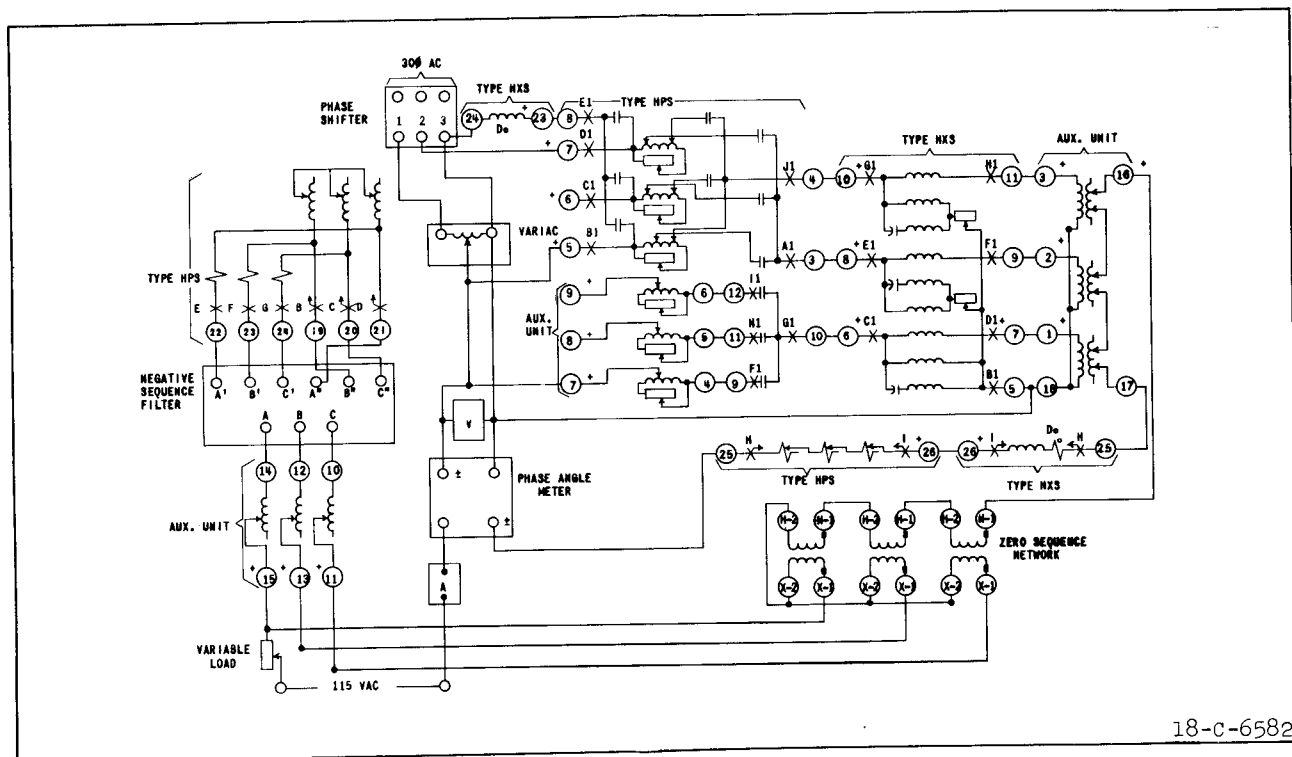

Fig. 15—Test Connections For Calibration Check Of A Reactance Element.
1. Make set-up similar to Fig. 15.
With equipment connected as shown in Fig. 15 which is a simulated phase A to ground fault and the selector taps set to 10 turns, the phase A selector should close contacts to the right, phase B and C elements should have torque to the left. The telephone relay  $T_A$ , should pick-up within the values listed in section on Phase Selector Element Settings.